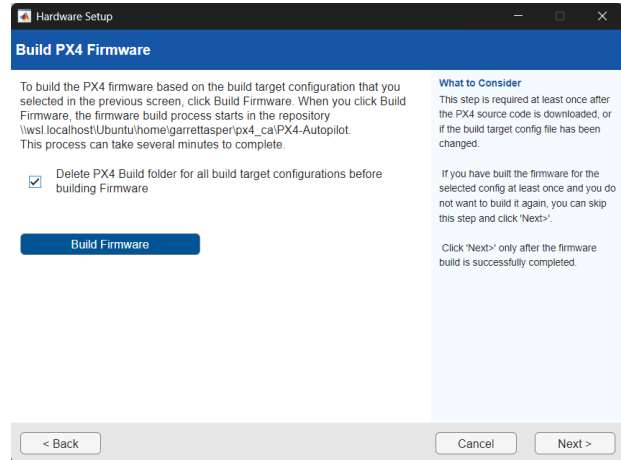

Figure B.12: Screenshot of the build PX4 firmware window.
14. The build PX4 firmware screen is where the user starts the build of PX4 base code compatible with the UAV Toolbox. Click “Build Firmware” as shown in Figure B.12 and monitor the Command Window in MATLAB® to view progress.